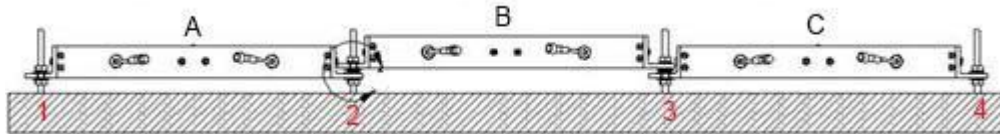

Figure 7: Multiple Tilt Beams Installation in Succession
- Installing the beams one at a time in succession. Referring to Figure 7, install beam A, followed by beam B and beam C: